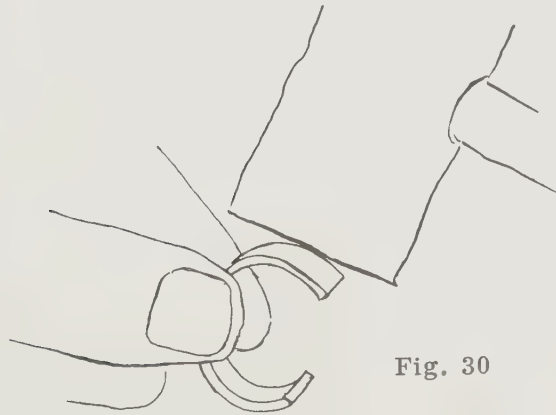

Fig. 30
5. Remove from mandrel. Hold strip on workbench or anvil and tap gently on one curved end to form a circle, as shown in Fig. 30. It does not have to be a perfect circle at this point, but the ends must be tight and parallel for soldering.